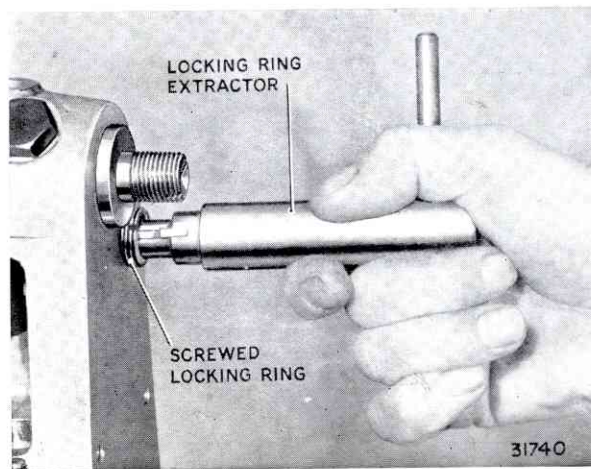

FIG. 68. REMOVING LOCKING RING
2. To remove the locking ring holding the rear control rod bush in position in the pump housing, use C.A.V. Tool No. ET.031 (Fig. 68).